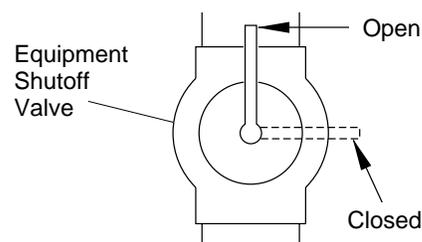

Figure 14 - Equipment Shutoff Valve
1. Locate two bottom mounting holes. These holes are near bottom on back panel of heater (see Figure 14).
1. Close equipment shutoff valve (see Figure 14).
1. Open equipment shutoff valve (see Figure 14).